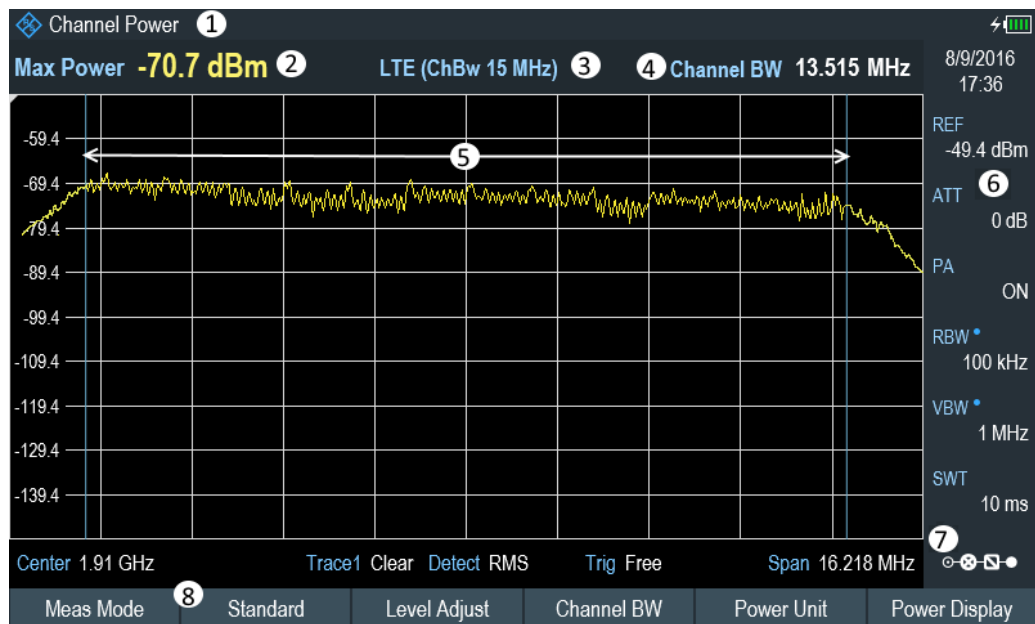

Figure 6-1: Screen layout for channel power measurements
The power display (see item 2 of Figure 6-1) switches from [Power] to "Max Power".